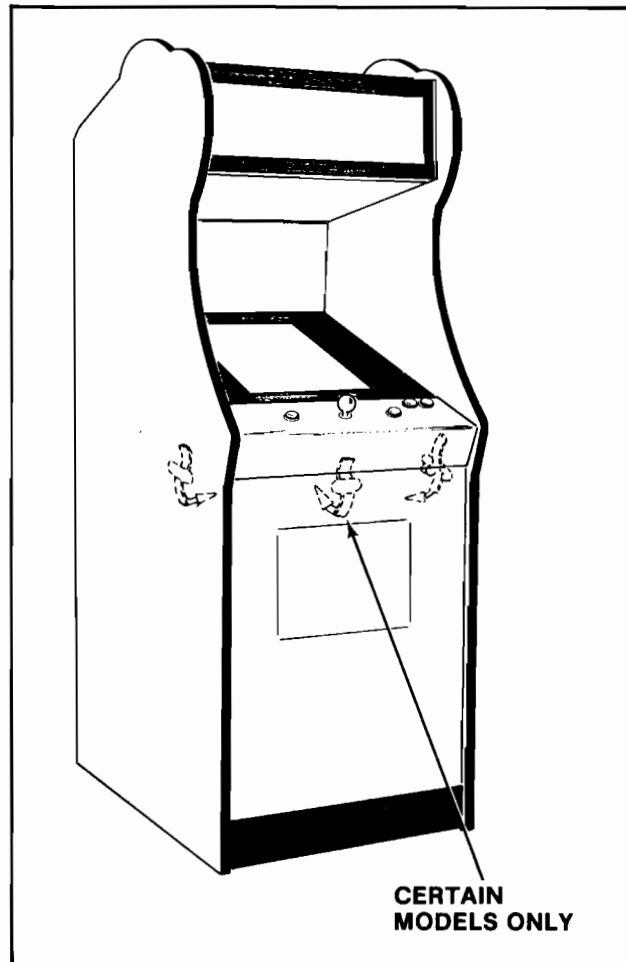

Figure 2-2 Opening the Control Panel - Upright
### 2.4.1 UPRIGHT MODEL: (See Figure 2-2)
- The control panel is held in place by two or three latches. See Figure 2-2.